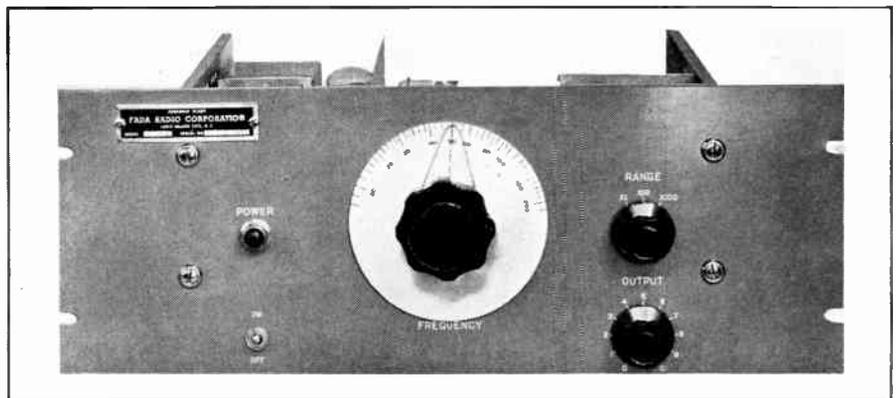
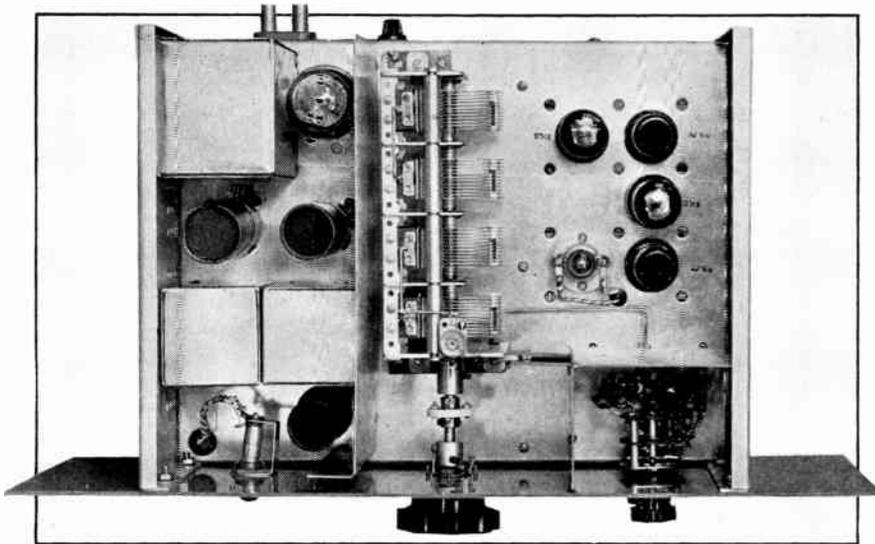

FIG. 1. SINE WAVE TO SQUARE WAVE SWITCH WAS ADDED AFTER PHOTO WAS TAKEN
FIG. 3. CAREFUL SHIELDING IS NECESSARY FOR HIGHLY STABLE AF OSCILLATOR CIRCUIT
**Arrangement** ★ The audio frequency oscillator, as illustrated in Figs. 1, 2, and 3, is mounted on a 7- by 19-in. panel, pierced for mounting on a standard relay rack. This panel carries a conventional box-type chassis, attached both directly to the panel through control shaft bushings as well as through the agency of the two end plates visible in Fig. 3. These end plates serve to stiffen the whole assembly, and to provide a means of carrying a dust cover which is slipped over them from the rear to enclose the equipment. They also operate to protect the components mounted above the chassis during the processes of assembly and wiring in manufacture.